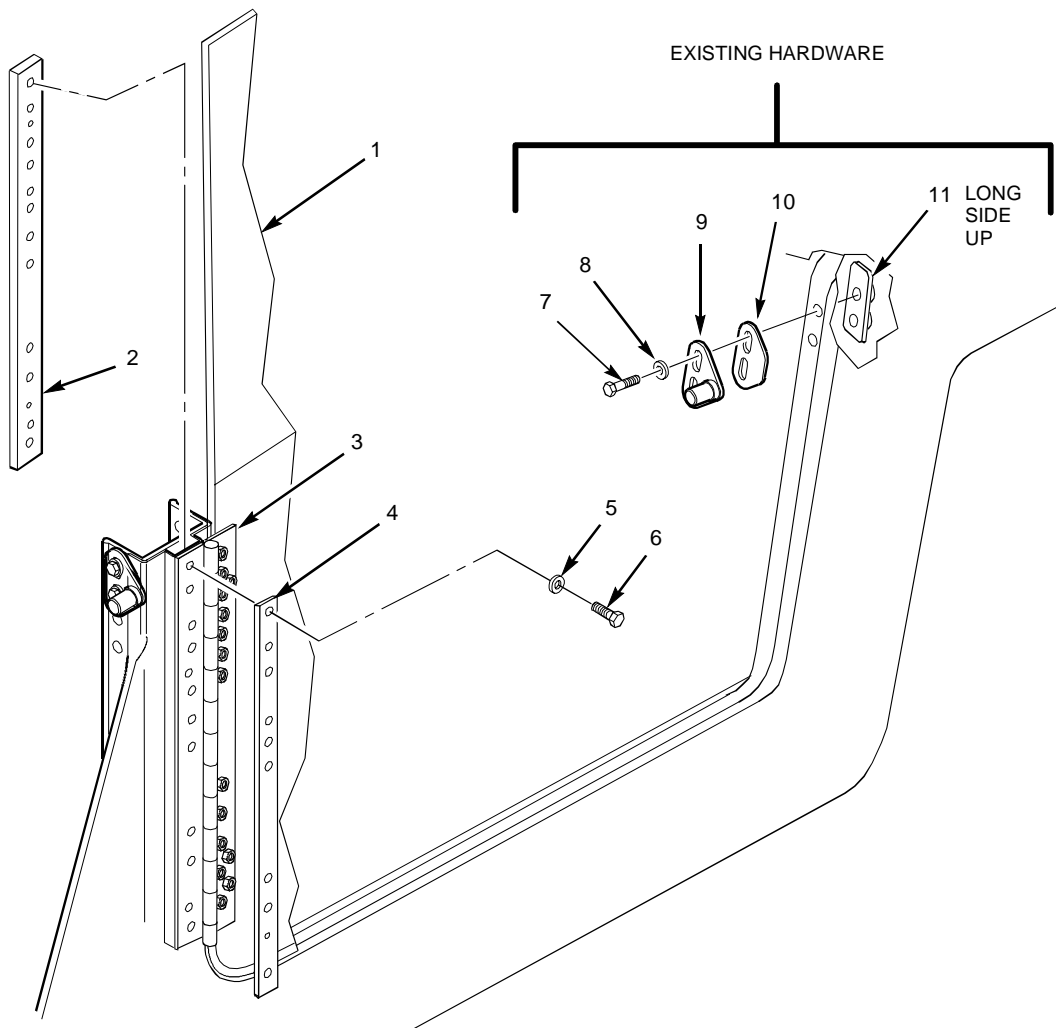

Figure 2-3. Rear Door Removal (4 Door Only)
1. Remove rear door(s) (see figure 2-3).
- a. While supporting door assembly (1), remove nine capscrews (6), washers (5), B-pillar cover strip (4), and B-pillar nut plate (2).
- b. Remove door assembly (1).